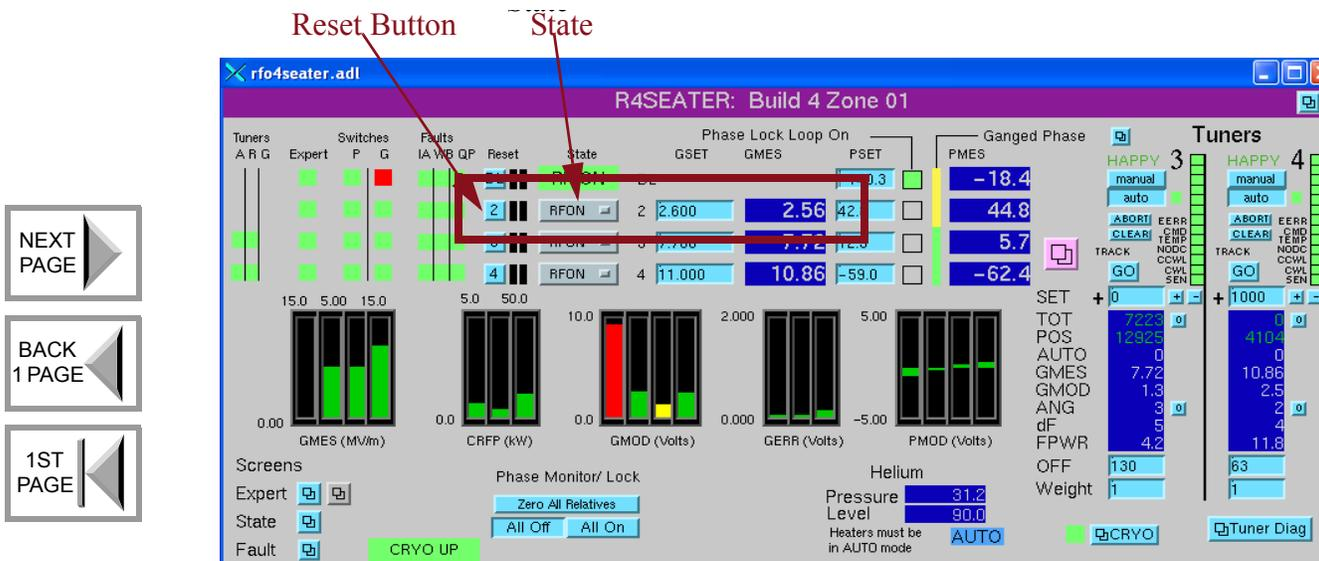

Figure 6-1: RF 4-Seater screen
1. Open the *Ops 4 Seater* screen from **FEL Main Menu** ⇒ **RF** ⇒ **RF FEL Main Menu** ⇒ **Ops** ⇒ **Ops 4 Seater** (Figure 6-1).